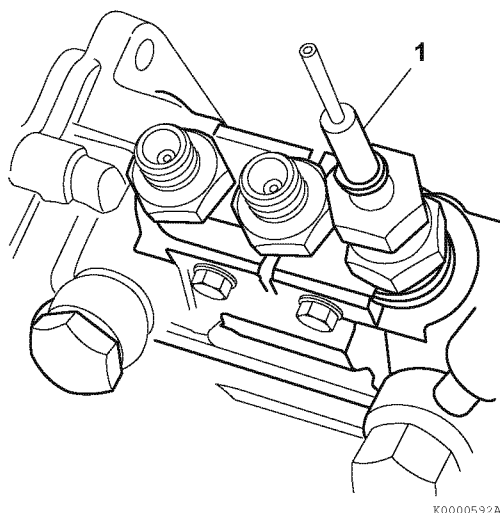

Figure 7-35
13. Install the “spill-timing” tool (1, **Figure 7-35**) onto the delivery valve for the cylinder being checked. *See Measuring Instruments on page 7-10.*